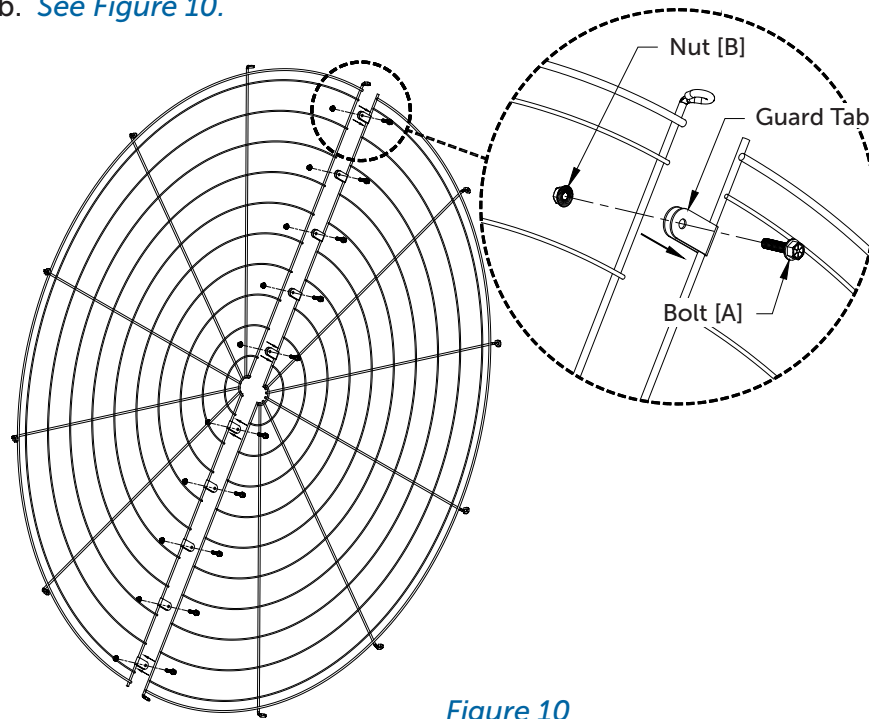

Figure 10
Find the 2 Guard Sections and with all the eyelets facing the same direction, slide the guard tabs over the center guard wire and fasten the 2 guard sections with (1) Bolt [A] and Nut [B] in each tab. See Figure 10.